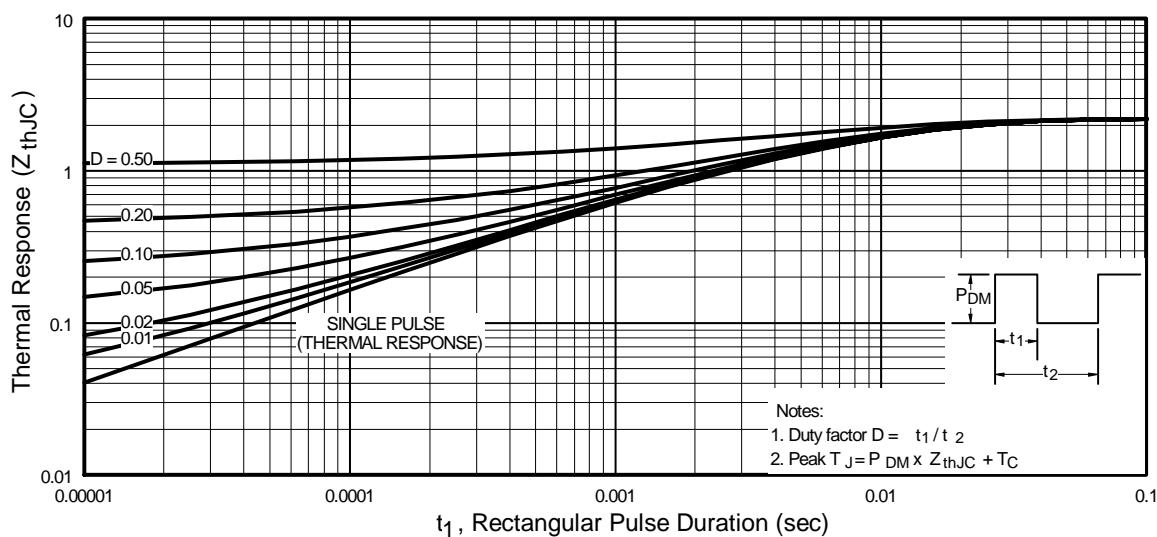

Fig 11. Maximum Effective Transient Thermal Impedance, Junction-to-Case
① Repetitive rating; pulse width limited by max. junction temperature. (See fig. 11)
③ $I_{\text{SD}} \leq 16\text{A}$, $di/dt \leq 270\text{A}/\mu\text{s}$, $V_{\text{DD}} \leq V_{(\text{BR})\text{DSS}}$, $T_J \leq 175^\circ\text{C}$
② $V_{\text{DD}} = 25\text{V}$, starting $T_J = 25^\circ\text{C}$, $L = 610\mu\text{H}$